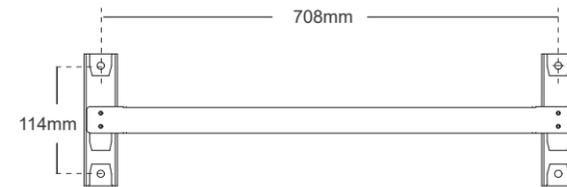

Fig 2.1 Wall-mounting
- Select the mounting height of the support and mark the mounting holes according to Figure 2.1 for brick walls, the holes must be drilled for bolts.